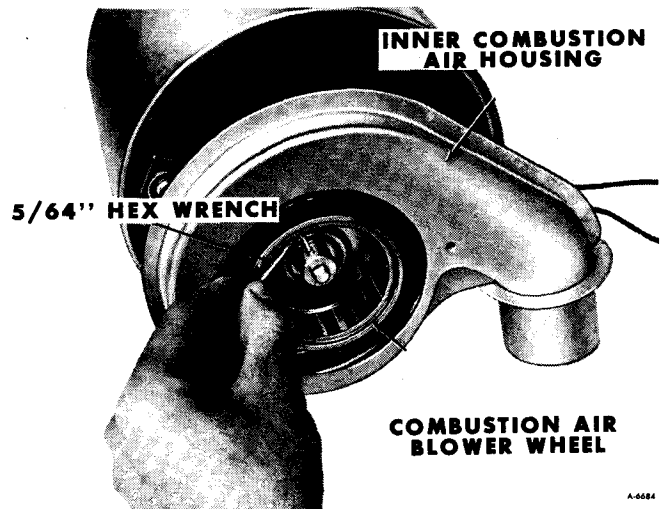

Figure 25—Removing Combustion Air Blower Wheel
5. Using a 5/64" hex wrench, remove combustion air blower wheel (figure 25).
5. Install combustion air blower wheel (figure 25).